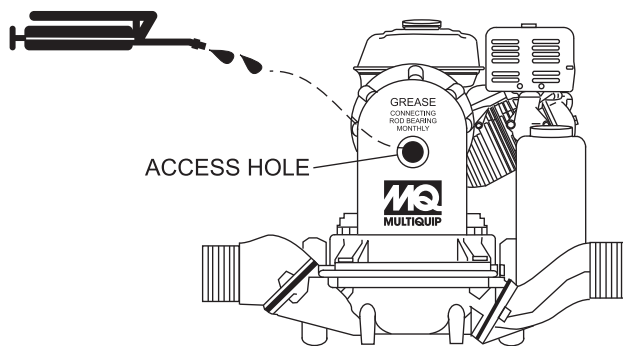

Figure 8. Connecting Rod Bearing Lubrication
1. Grease **connecting rod bearing** thru the access hole (Figure 8) every 25 hours of operation.
1. Grease **connecting rod bearing** (Figure 8) every 8 hours of operation. This is done by rotating the rod bearing to the 12 o'clock position. At this point the grease fitting will be visible through the guard hole.